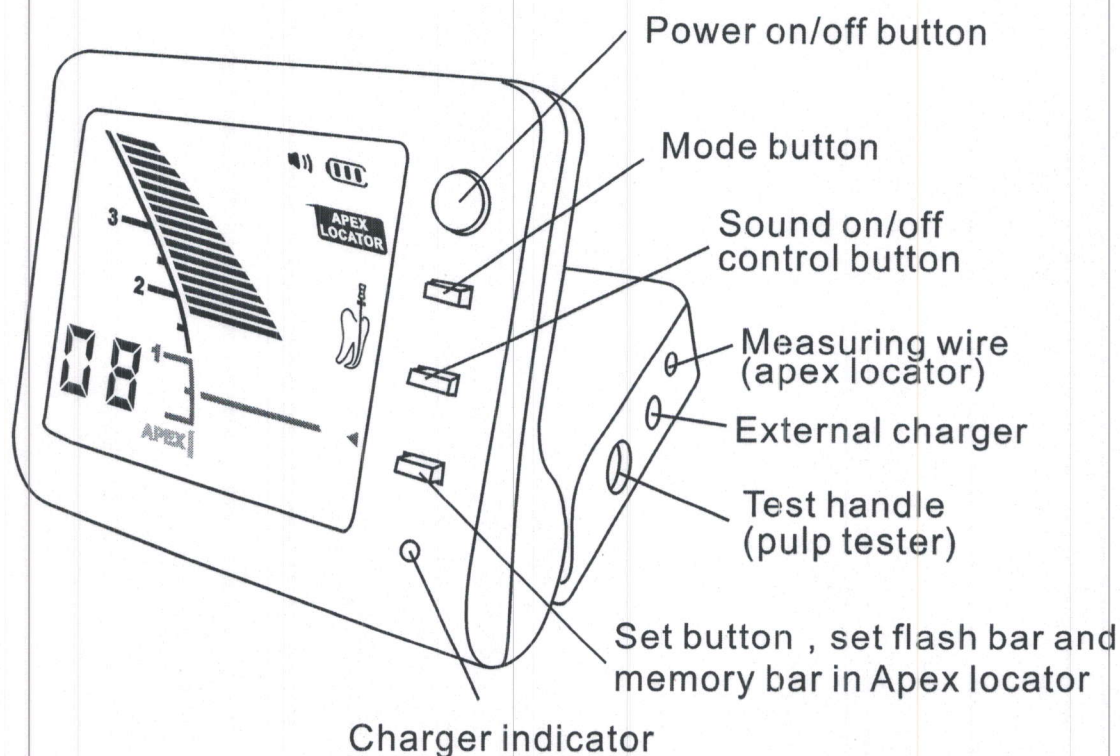

Fig.1
Congratulations on the purchase of C-Root I (VI), as an apex locator which is precise, ergonomic, and able to determine the exact working length in seconds, as a pulp tester which is a wise assistant to judge the pulp vitality.(Fig.1)